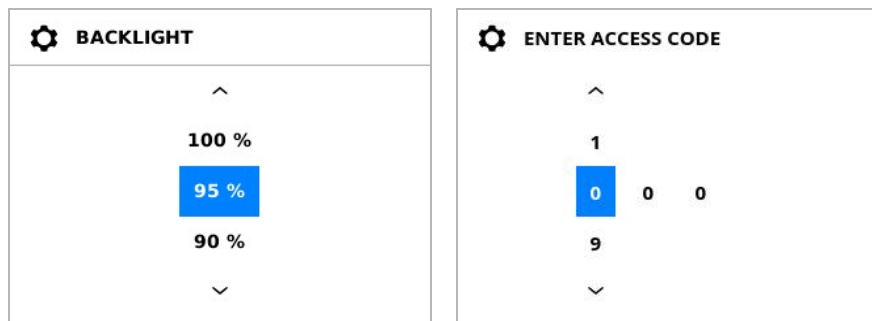

Figure 4-4: Examples of configuration screens
In screens like the ones shown in Figure 4-4:
-  In a multi-item configuration screen (see Figure 4-4, R), highlights the next selectable item to the left.